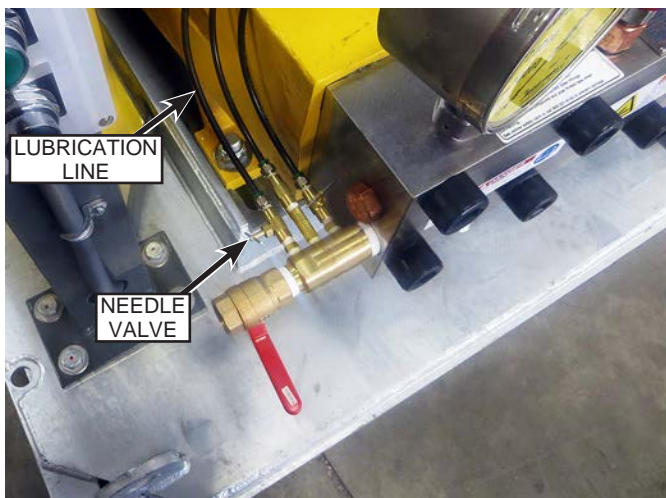

Fig. 29: Needle Valve Adjustment (40K)
4. Adjust the needle valves (Fig. 29) to increase the water flow. Turning the needle valves counter-clockwise will increase flow. Proper flow is achieved when a small stream (more than a drip) is visible without splashing past the deflectors onto the pony rods.